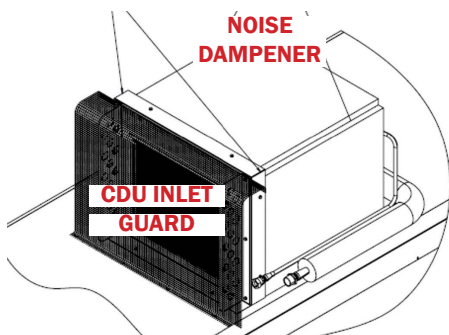

Fig. 65 Low charge housing air-block
9. With piping connections reconnected and the electrical junction box installed on low charge cases, the condensing unit inlet guard can be placed back onto the cases using the screws retained from “DOORWAY PREP” step 3 (Fig. 65).